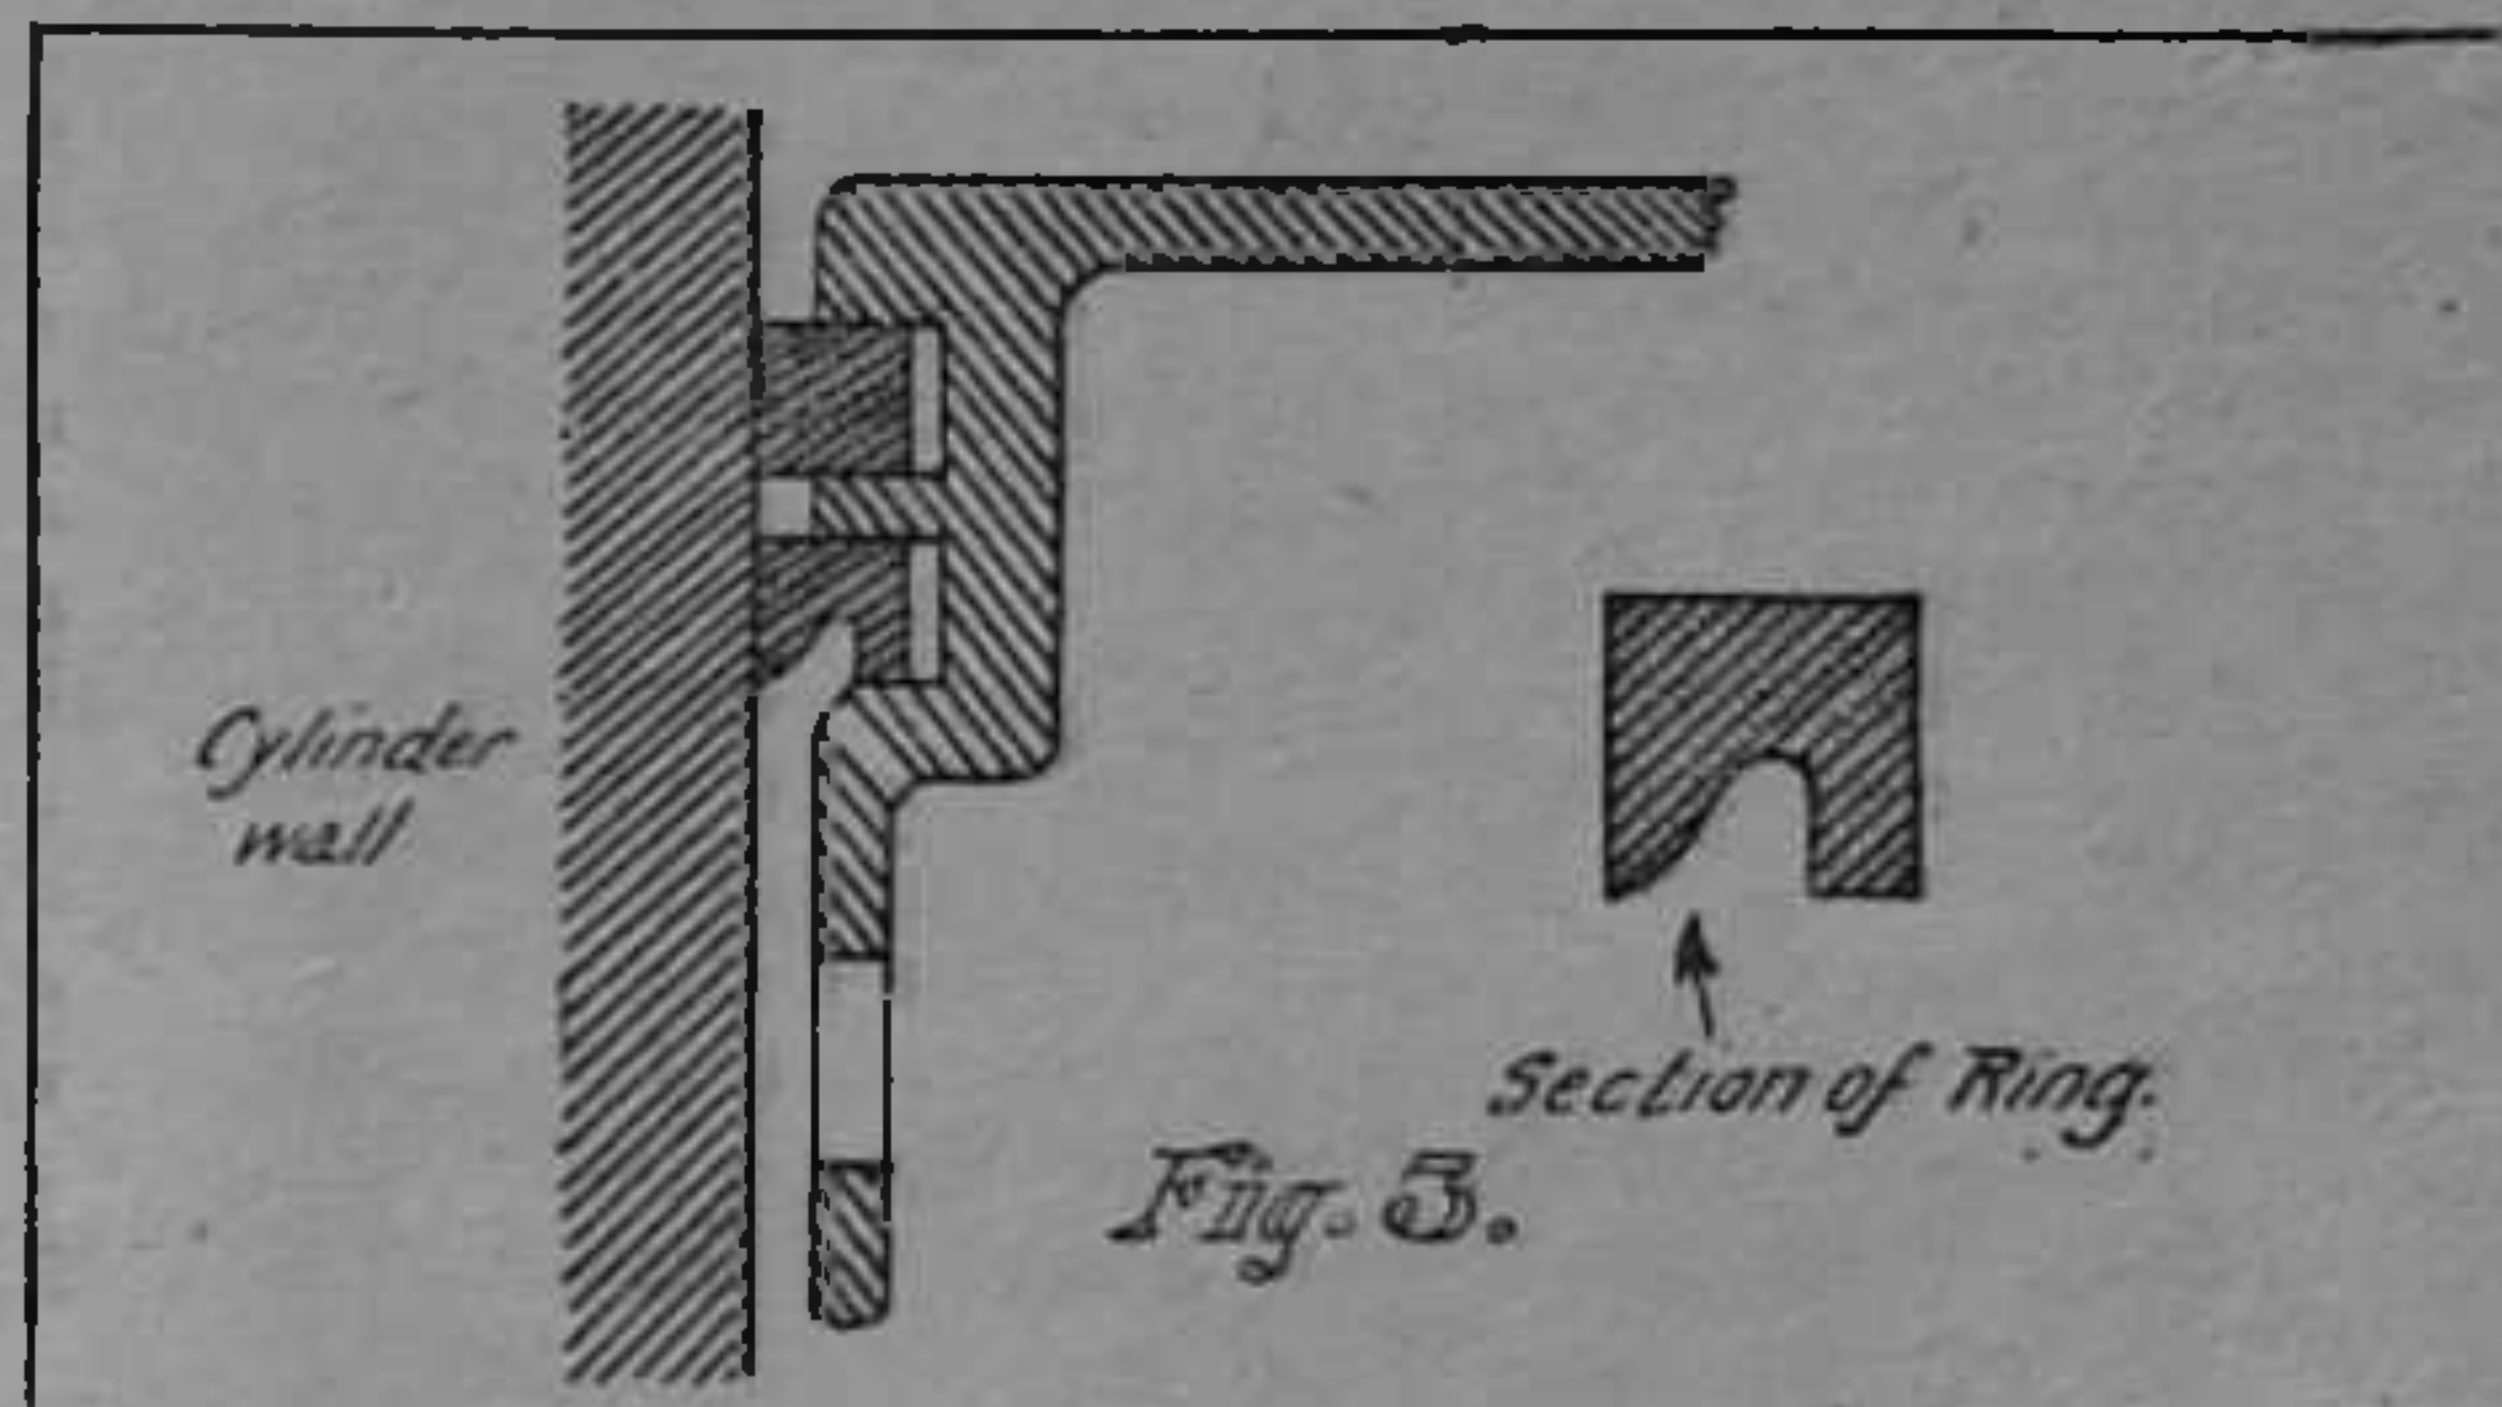

Fig. 3.—A further alteration to the lower piston ring to enable it to act as a scraper.
2). Looking at this assembly, it will readily be seen that the lower ring now also acts as a scraper, so that on the downward stroke of the piston the oil, in place of being pumped into the combustion chamber, is caught by this ring and returned to the interior of the piston through the small holes around the chamber. This quantity of oil is also considerably lessened, because the 5-16 in. holes permit a large amount to escape before it even reaches the scraper ring. From this it will be fairly obvious that the amount of oil which gets as far as the combustion chamber must be negligible; therefore an engine thus treated will travel a considerably greater mileage before requiring to be taken down for decarbonizing than will one of the orthodox type. In some designs of engines, especially those having twin cylinders of the V and opposed types, it is not always advisable to treat both pistons similarly. The reason for this is that the back cylinders of these designs, unless special lubrication systems equalizing the distribution of oil other than by splash be provided, are over-lubricated while the front cylinders are starved. In such engines treatment of the back piston and rings is all that is usually necessary, except, perhaps, in the case of the Indian and 4 h.p. Douglas, which have direct and positive lubrication to the front cylinder. In pistons of the single-ring type a combined compression-retaining and scraper ring of the type shown in Fig. 3 may be fitted. This is an excellent design of ring, incorporating several interesting points that the expert will notice without much difficulty.